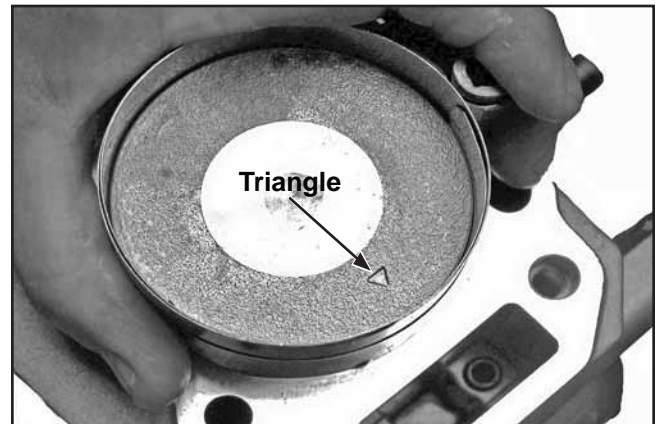

Figure 10-3. Piston Orientation (After Installation).
3. Aim the triangle on top of the piston towards the push rod chamber. See Figure 10-3.